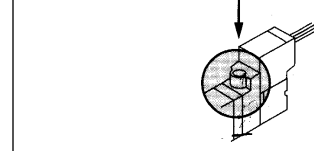
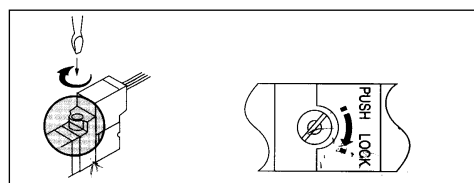

Fig 8
Fig 9
Solenoid manual override (Fig 8 and Fig 9)
Push non-locking type (Fig 8)
- Push down on the manual override button (Fig 8) until it stops ON.
Push locking type (Fig 9)
- Push down and turn the manual override button (Fig 9) clockwise using a small slotted screwdriver until the slot is opposite the locked position.
Unlocking (Fig 9)